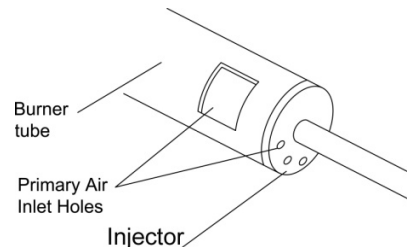

Figure 19 Inject or holder on
2. Inspect burner, pilot and primary air inlet holes on injector holder for dust and dirt (see figure 19).
5. Blow air into the primary air holes on the injector holder (see Figure 19).